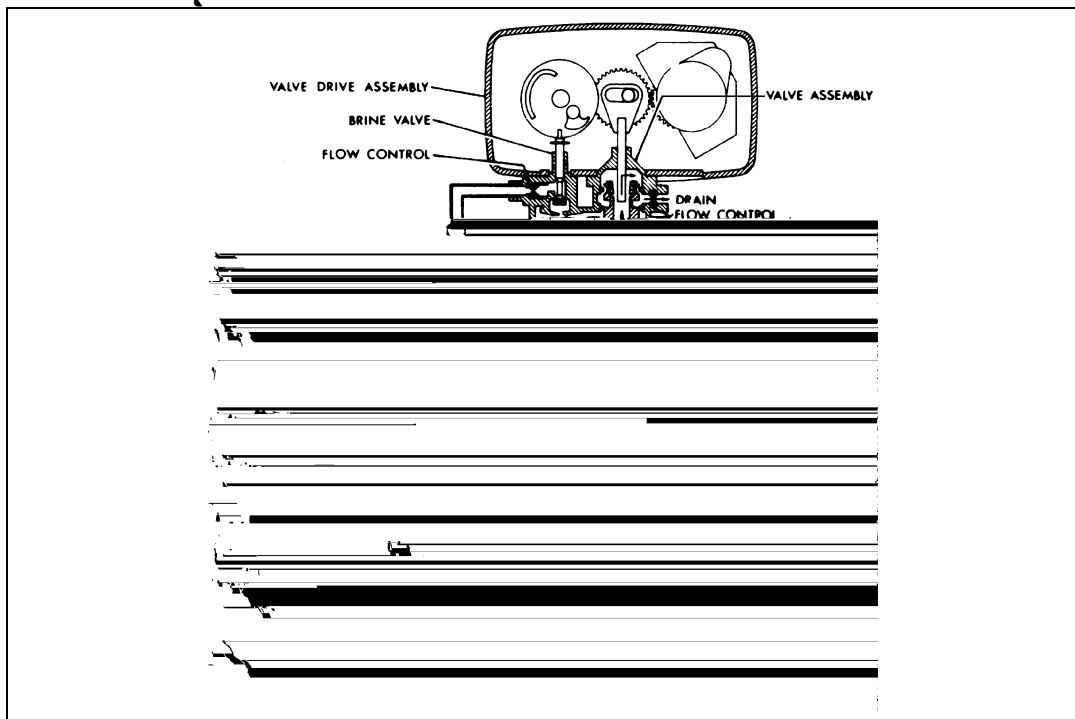

Figure 10: Settling Rinse Position
- Same as Figure 10, page 13 with standard or filter piston.